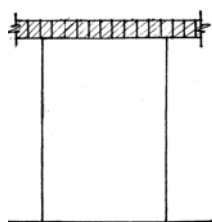
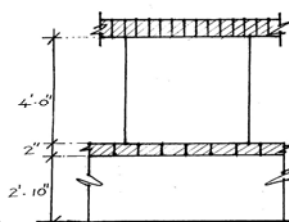

Fig 3A
Fig 3B
- At the base of openings in the wall for windows, a single layer of bricks laid flat must be used. Lintels for door and window openings must have a single row of bricks placed on edge as a lintel support. fig 3A shows the positioning of bricks for a 7' high door opening. fig 3B shows the positioning of bricks at the sill level and head level for windows.
It is important to ensure that the row of bricks serving as a base for lintels placed at the top of door and window openings should extend not less than 6" inches beyond the sides of the opening as shown in fig 3A and 3B.
Corbels can be constructed using bricks placed flat or on-edge as preferred, as shown in fig 3A & 3B.